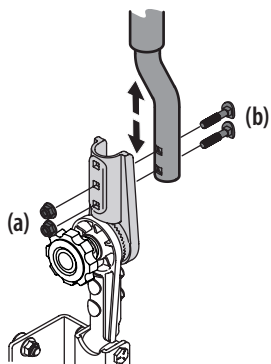

Figure 2-5
1. Remove the flange lock nuts (a) that secure the carriage bolts (b) in the drive control levers. See Figure 2-5.
2. Remove the carriage bolts (b) from the drive control levers and reposition to the second set of holes in the mounting block. See Figure 2-5.
3. Reinstall the carriage bolts (b) and flange lock nuts (a), and tighten to 28-34 ft-lbs. See Figure 2-5.